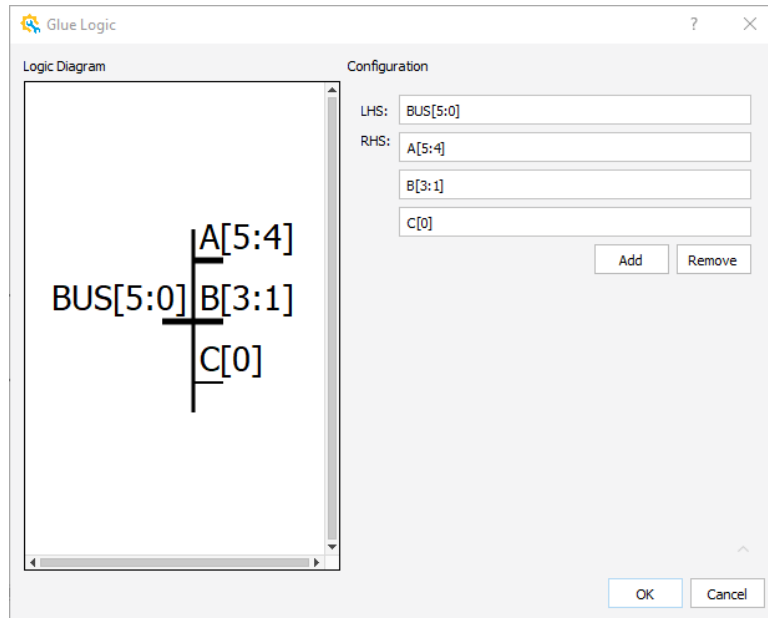

Figure 2.33. Glue Logic Wizard for Split Module
- a. From the IP Catalog, select the **split** module. Double-click the split module, or drag and drop the split module to the Schematic view. A Glue Logic wizard (Figure 2.33) pops up.